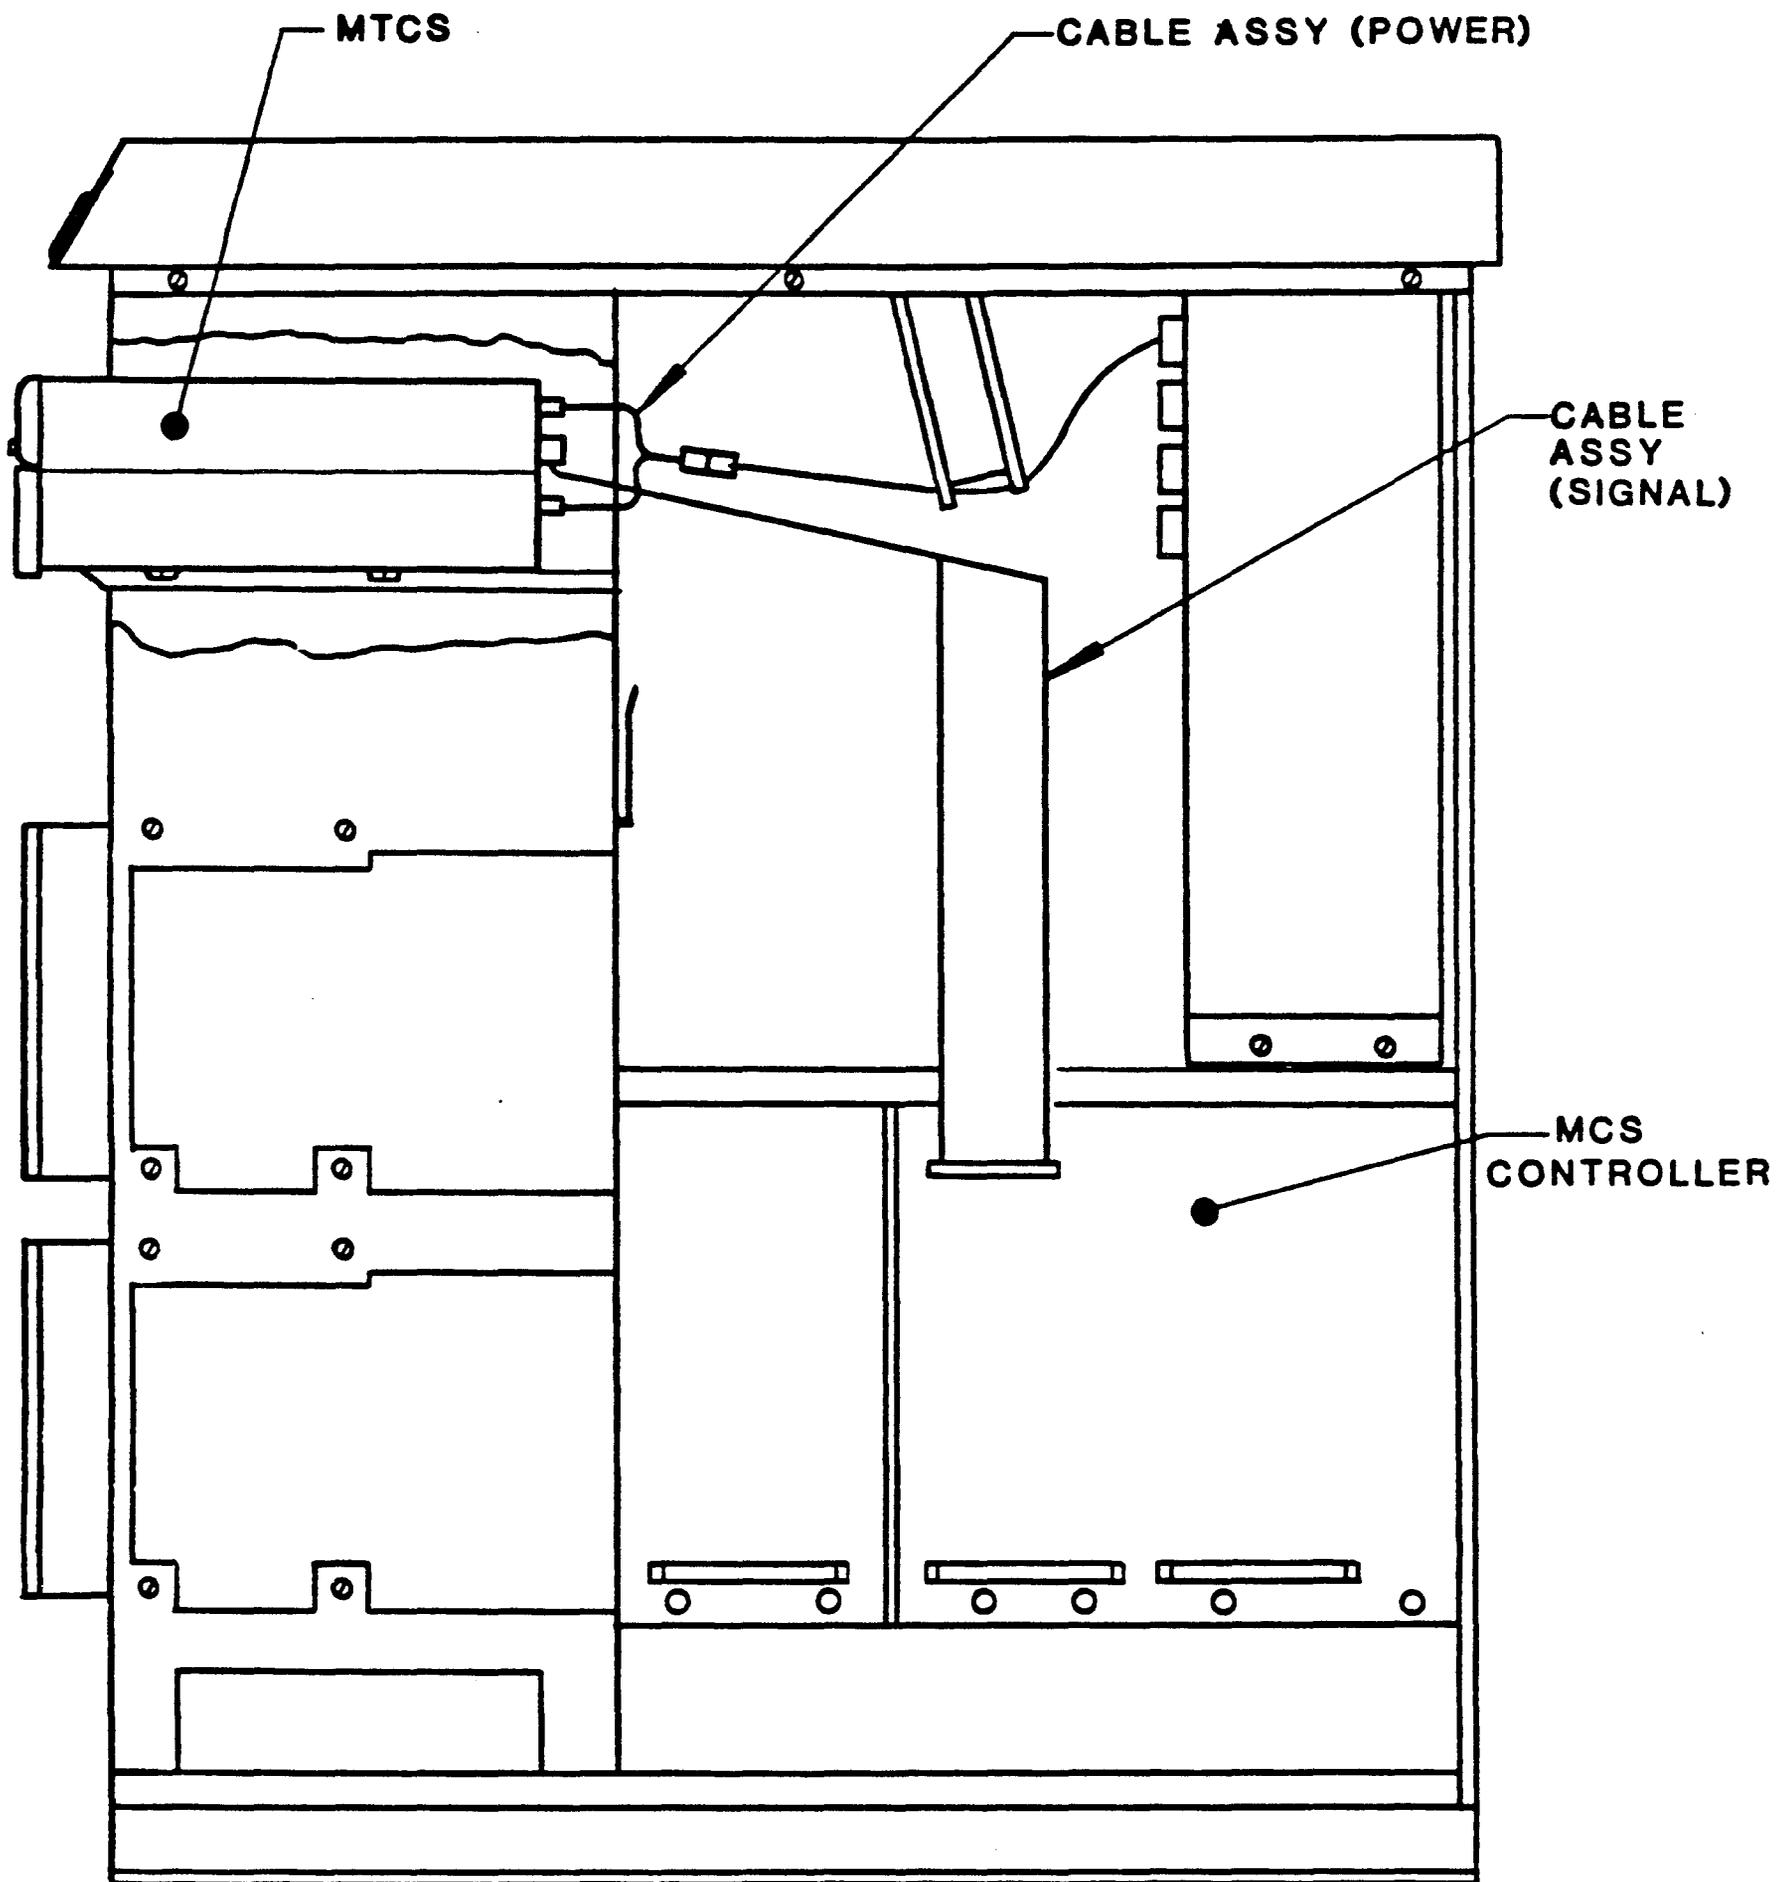

Figure 3-1. MCS Installation into MAI 3000 CCA
10. Mount the MTCS to the CCA (Central Cabinet Assembly) chassis (refer to Figure 3-1).
11. Install and route the 916024-001 bus cable assembly between the MTCS and the MCS controller (refer to Figure 3-1).